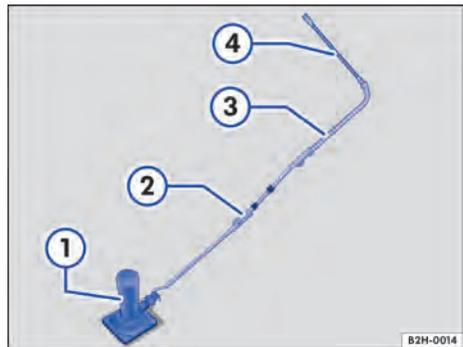

Fig. 213 Jack with extension
1. Unfold the extension lever → Fig. 213 ② from the vehicle toolkit.
2. Hook the extension lever into the vehicle jack → Fig. 213 ①.
- Place the socket bit → Fig. 213 ③ on the extension lever.
- Place the box spanner → Fig. 213 ④ over the socket bit.